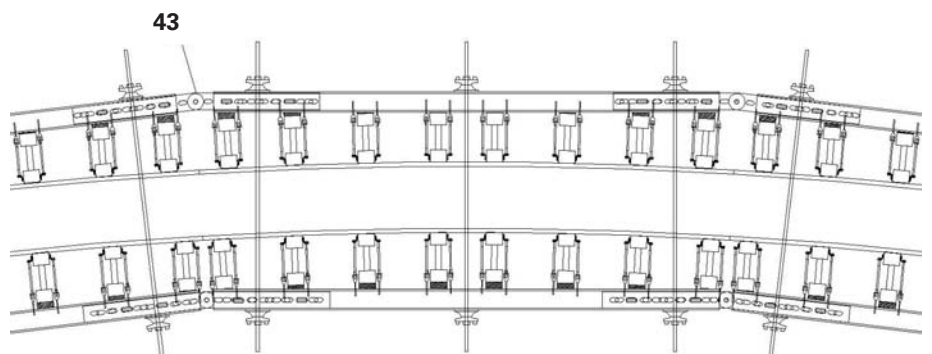

Fig. C2.03
- polygonal circular formwork. (Fig. C2.03)